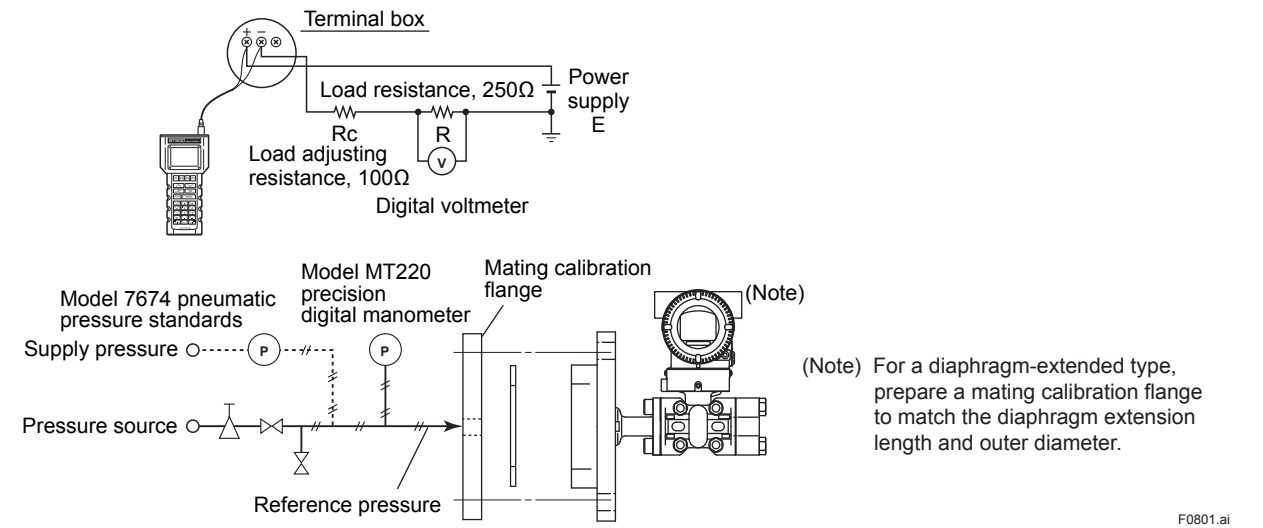

Figure 8.1 Instrument Connections (4 to 20 mA output)
- 1) Connect the transmitter and apparatus as shown in Figure 8.1 and warm it up for at least five minutes.
- 1) Connect the instruments as shown in figure 8.1 and warm up the instruments for at least five minutes.